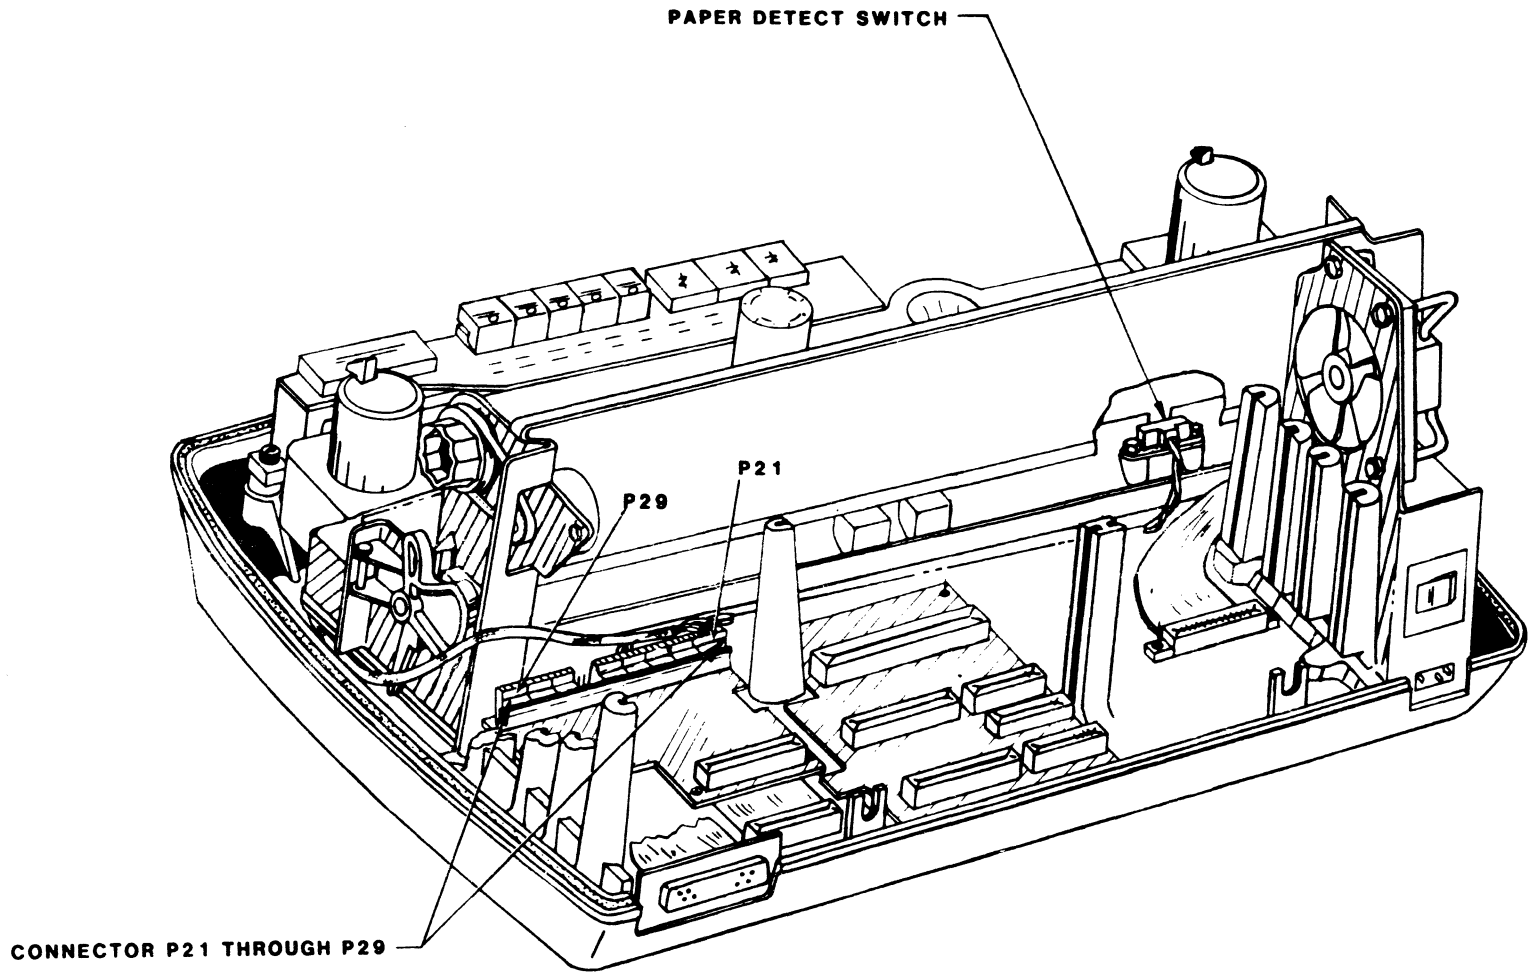

Figure 3-19. Paper Detect Switch Removal
To remove the Paper Detect Switch Assembly, refer to **Figure 3-19** and perform the following steps:
3. Disconnect the ribbon drive motor connector (**Figure 3-19**) from the Interconnect Board PCBA (P28 for the left motor or P29 for the right motor).
2. Disconnect the appropriate ribbon guide connector (**Figure 3-19**) from the Interconnect Board PCBA. (For the left ribbon guide, disconnect P24; for the right ribbon guide, disconnect P23.) Remove the PCBAs for access to the left guide's cable.
2. Disconnect P27 from the Interconnect Board PCBA (**Figure 3-19**).